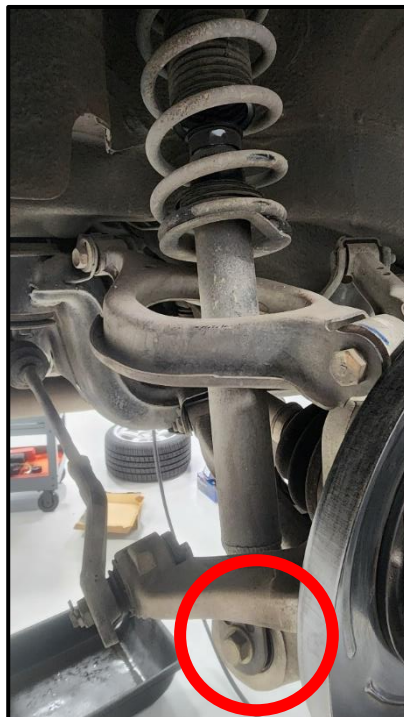

Figure 2
7. Remove the Lower Shock to Knuckle bolt and nut hardware. *Figure 2*.